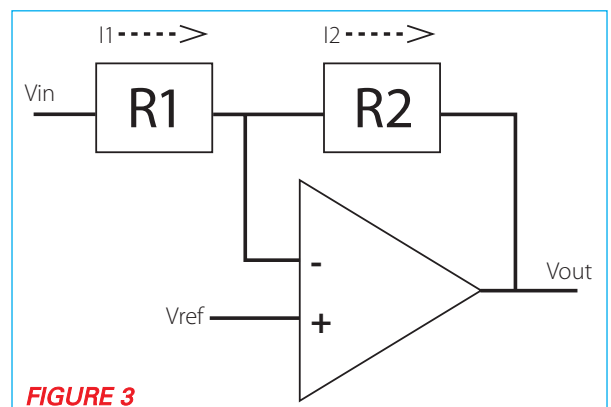

FIGURE 3
Now let's look at the circuit in Figure 3. It is based on the following characteristics of an ideal operational amplifier:
■ FIGURE 3. IR receiver schematic.
PNA4602M unit because it's readily available (see the Sources sidebar) and it requires no additional external circuitry. The connections couldn't be simpler (see Figure 2): pin 1 (V-out) connects directly to the IR input pin of the 08M (input 3, external pin 4); pin 2 is ground; and pin 3 is +5V. The 08M circuit for IR reception is presented in Figure 3, and a photo of the breadboard circuitry is shown in Figure 4.